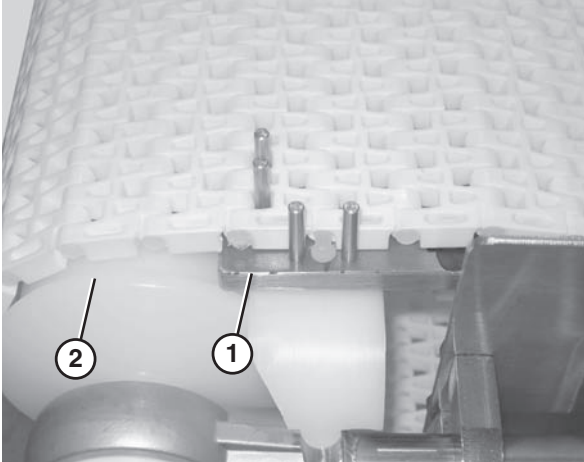

Figure 53
2. Secure the retaining head side of the belt. Use the belt removal tool (**Figure 54, item 1**) for 1" pitch belts. For all other belts, position the section of belt so that it is braced by the flanged puck (**Figure 53, item 2**).